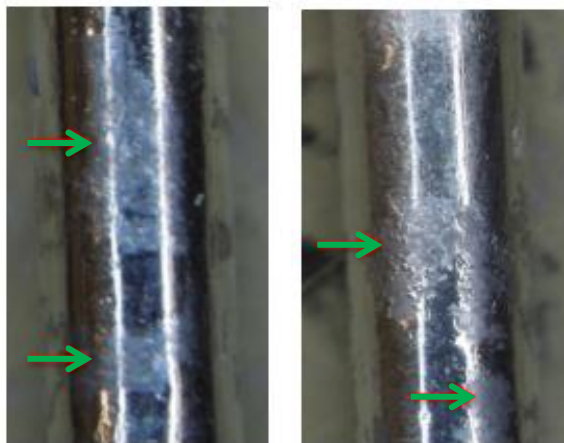

Figure 28: Examples of discolored solder pins
- The solder pins of the *flow 2* modules are plated with a nickel underlayer and a continuous tin finish to promote solderability. The tin finish can be discoloured due to production process or storage conditions. This is merely a cosmetic imperfection and does not influence the solderability of pins. Different solder pins on the same module may exhibit different levels of discoloration as shown in the examples in Figure 28.